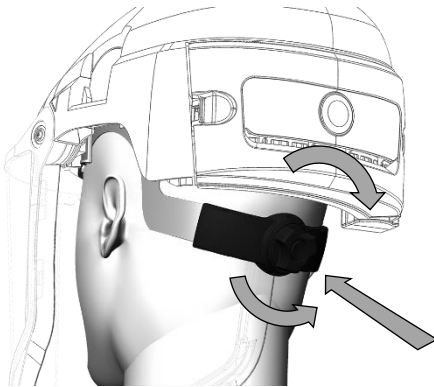

Figure 15
Before first use, adjust the crown height by adjusting the crown strap following Figure 11-Figure 15.
For comfort and security, the quick release headband must be adjusted each time prior to entering the work environment. (Figure 15)
1. Before taking the respirator off, loosen the quick release headband by pressing the ratchet button (Figure 15) and simultaneously rotating the ratchet counter-clockwise.